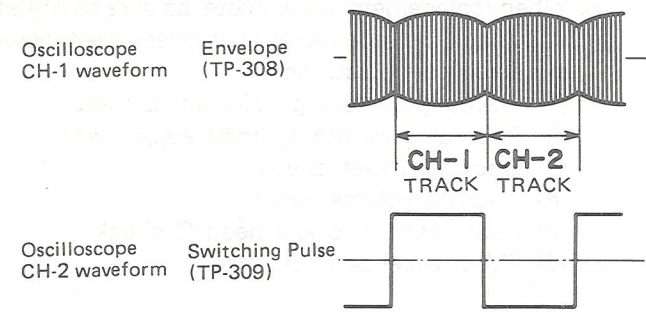

Figure 27
4. Play a rough adjustment tape and carryout a rough adjustment of the height of the guide rollers using a regular screwdriver. (a guide roller height adjustment — screwdriver). Line up the lower edge of the tape with the lead of the drum (See Figure 27). Also check that the tape does not curl on the flanges of the T.S. guide rollers.
5. Play a standard tape and fine adjust the height of the guide rollers so that the envelope is flat, and not too adversely affected even when the tracking knobs are rotated (See Figure 27). Also, adjust the SW point to  $6.5 H \pm 0.5 H$ .
- 2. Trigger with a switching pulse and observe the envelope (Figure 27).